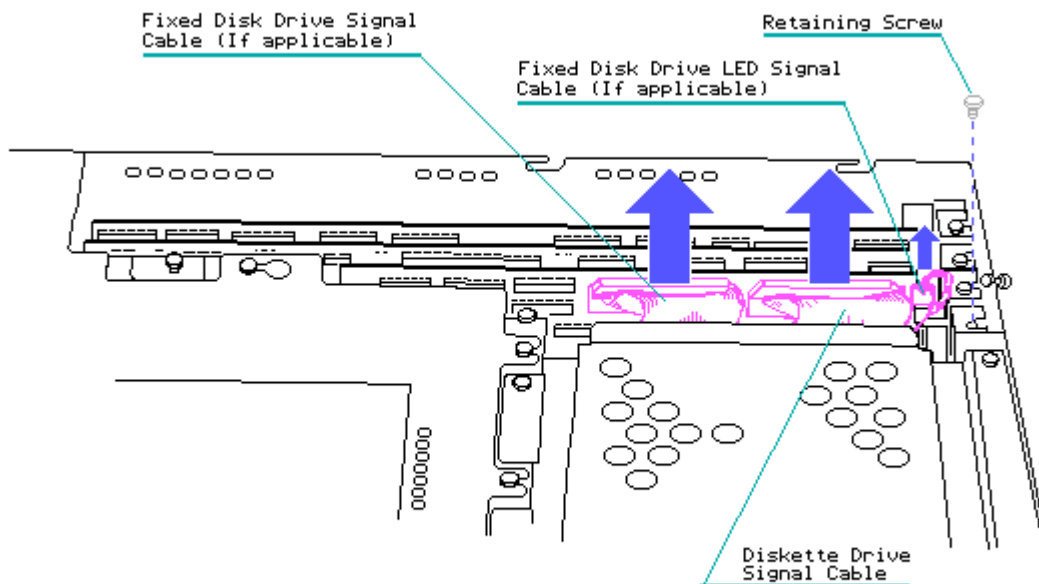

Figure 7-33. Disconnecting the Mass Storage Device Signal Cables from the Multipurpose Controller Board
2. Disconnect the mass storage device signal cable(s) as shown in Figure 7-33.